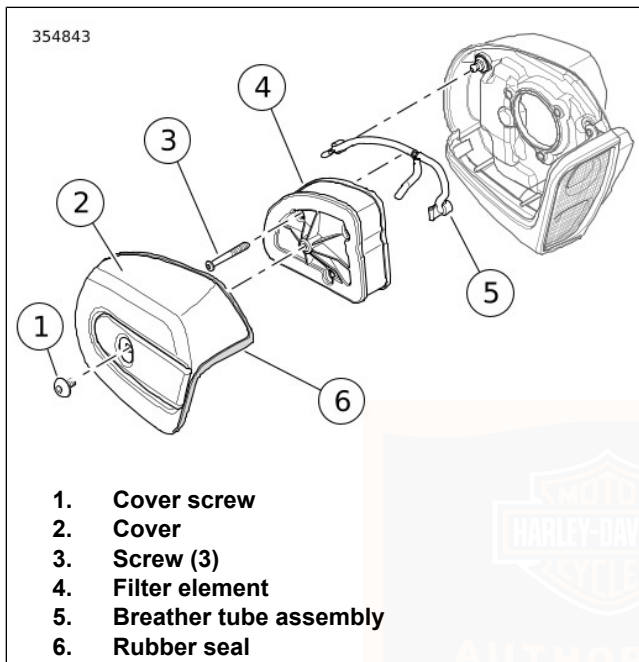

Figure 80. Air Cleaner Assembly
1. See Figure 80. Remove screw (1) and air cleaner cover (2) with rubber seal (6).
2. Remove three screws (3).
3. Remove filter element (4) pulling breather tube from hole on inboard side.
4. Remove breather tube (5) from breather bolts.
1. See Figure 80. Install breather tube (5) onto breather bolts.
2. Install filter element (4) while pushing breather tube into element.
3. Install screws (3). Tighten screws to 4.5–6.8 N·m (40–60 **in-lbs**).
4. Verify that rubber seal (6) is not damaged and is properly seated around perimeter of air cleaner cover.
5. Place air cleaner cover onto backplate. Apply a drop of LOCTITE 243 MEDIUM STRENGTH THREADLOCKER AND SEALANT (blue) to the threads of screw (1). Install screw. Tighten to 4.1–6.8 N·m (36–60 **in-lbs**).